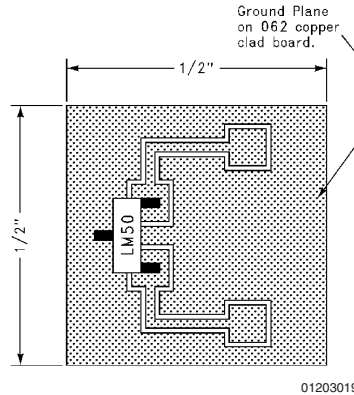

FIGURE 2. Printed Circuit Board Used for Heat Sink to Generate All Curves.
Typical Performance Characteristics To generate these curves the LM50 was mounted to a printed circuit board as shown in *Figure 2*.
Typical Performance Characteristics To generate these curves the LM50 was mounted to a printed circuit board as shown in *Figure 2*. (Continued)
** Heat sink used is 1/2" square printed circuit board with 2 oz. foil with part attached as shown in Figure 2.